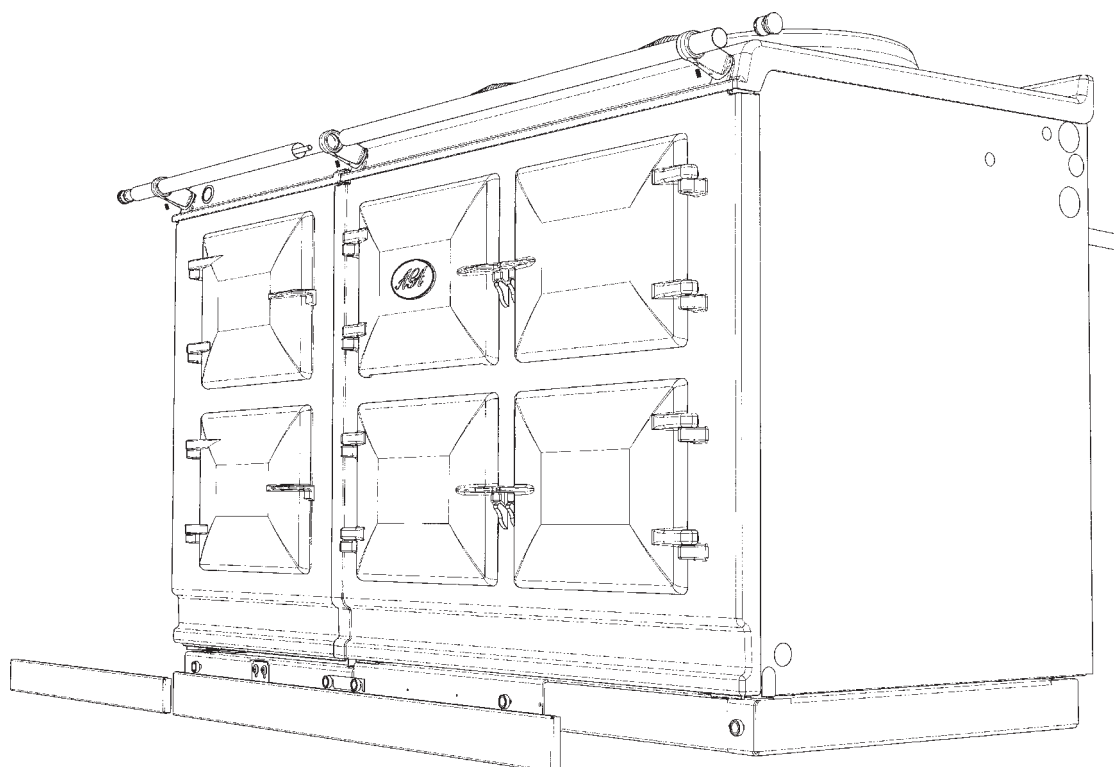

Fig. 30.12
11. On 5 oven appliances, fit 'allthread' stud into the threaded end of the handrail, then feed the handrail through the bracket (ensuring that the allthread stud is protruding from the right hand side of the hotcupboard handrail) and screw the handrails together. (Fig. 30.12).
**(Fig. 30.12)**